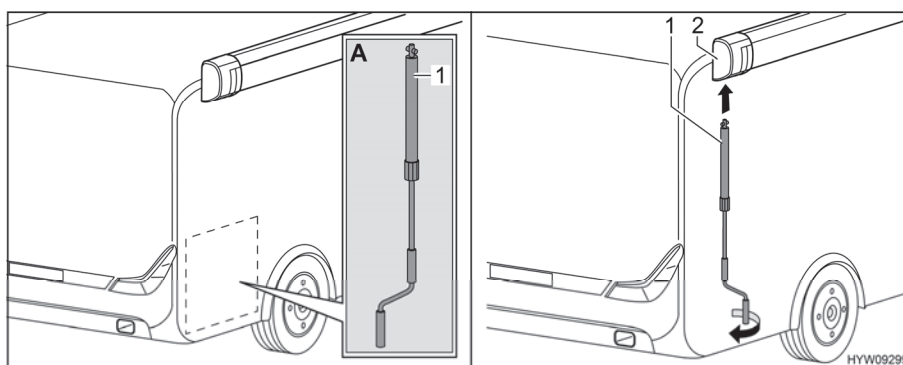

Fig. 20 Installing crank
- Take the crank (Fig. 20,1) out of the rear storage compartment (Fig. 20,A).
- Insert crank into bayonet socket (Fig. 20,2) of the awning.